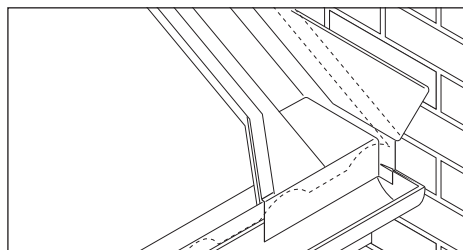

Fig. 26 – Secret gutter
- 3 Fix a splayed timber fillet at discharge point to raise lead lining to the right height. Avoid backward falls (Fig. 26).